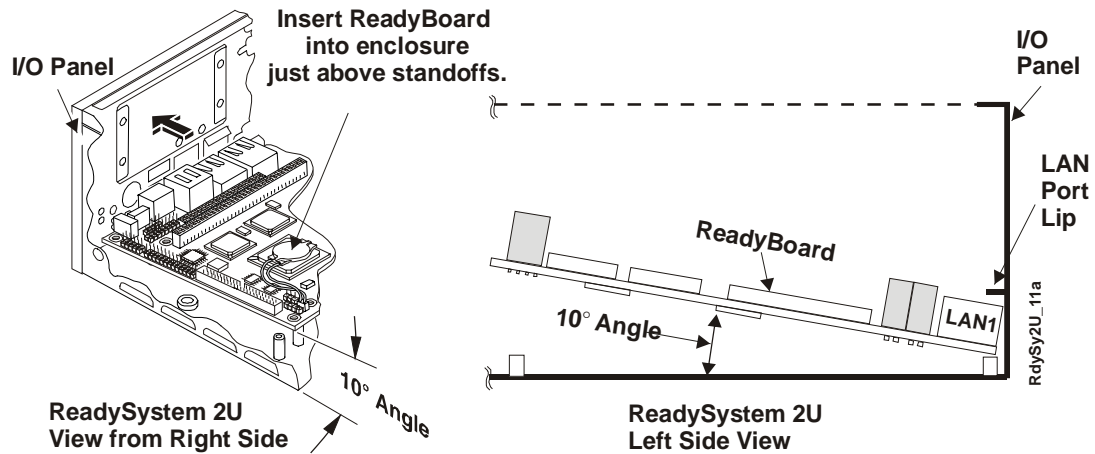

Figure 2-8. ReadyBoard Positioned Under LAN Ports
12. Position the ReadyBoard near the eight standoffs on the enclosure base at about a 10° angle to the mounting surface. See Figures 2-8 and 2-9.
13. Insert the ReadyBoard and its LAN connectors just under the lip of the LAN port on the enclosure wall, behind the I/O panel. See Figure 2-8.